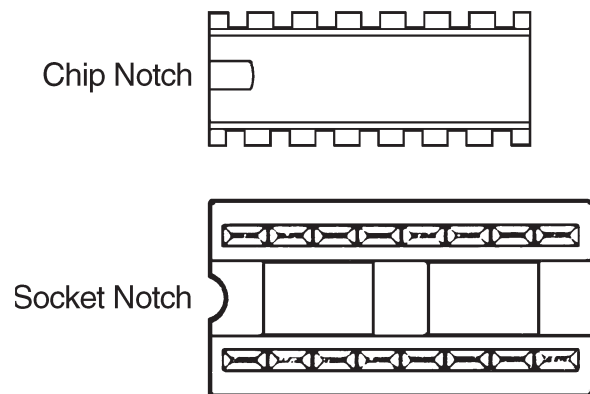

Figure 4-2. Location of Chip and Socket Notches
- 2 Align the notch on the PROM with the notch in the socket. See Figure 4-2. The notch on the